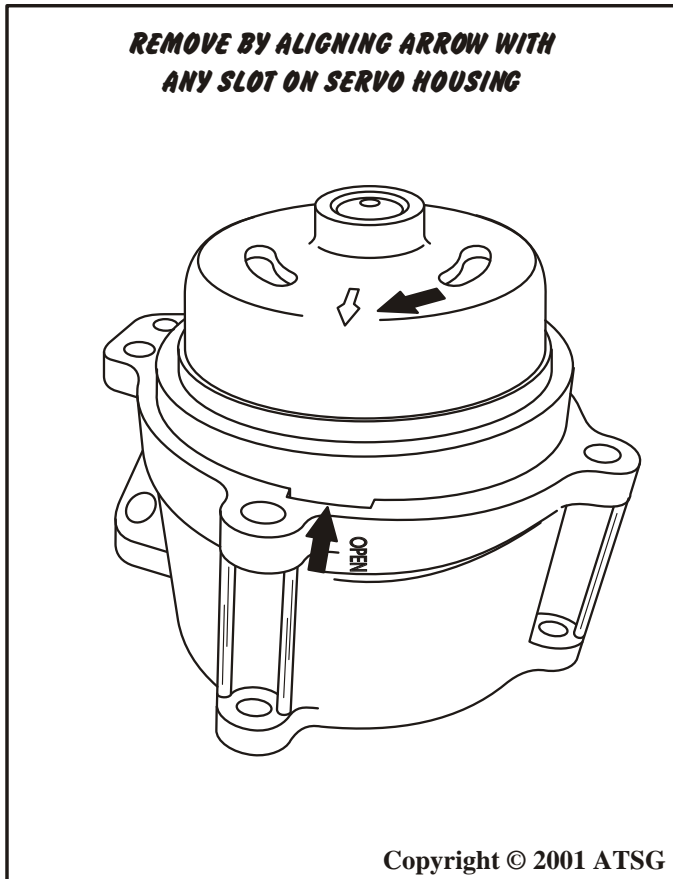

Figure 120
3. Remove reverse servo cover plate by turning in either direction to release. Align the arrow on the cover plate with any slot on the housing, as shown in Figure 120.